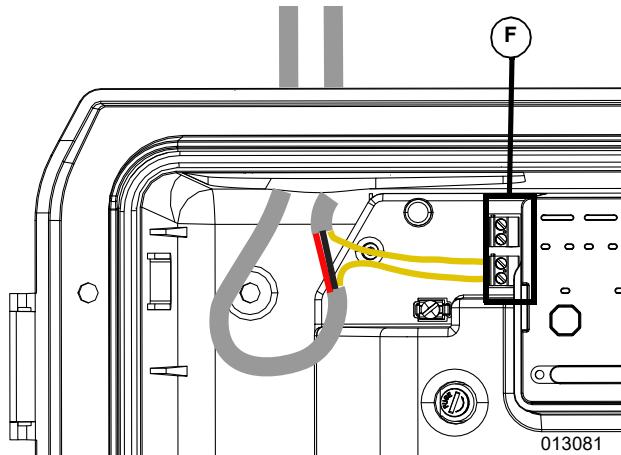

Figure 3-11. HVAC Relays
See Figure 3-11. For each thermostat set of wires, interrupt one of the signal wires through one of the relays (F) and leave the other wire intact and carrying on to the HVAC equipment.